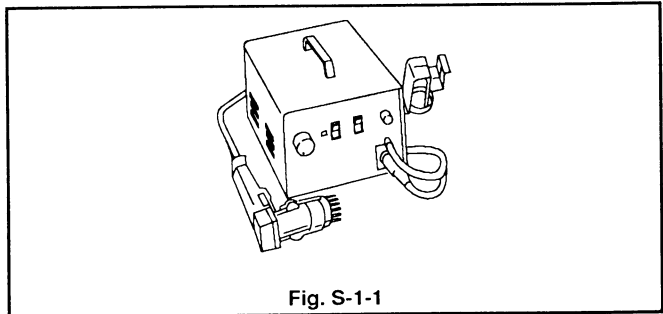

Fig. S-1-1
- (1)Prepare the hot-air flat pack-IC desoldering machine, then apply hot air to the Flat Pack-IC (about 5 to 6 seconds). (Fig. S-1-1)